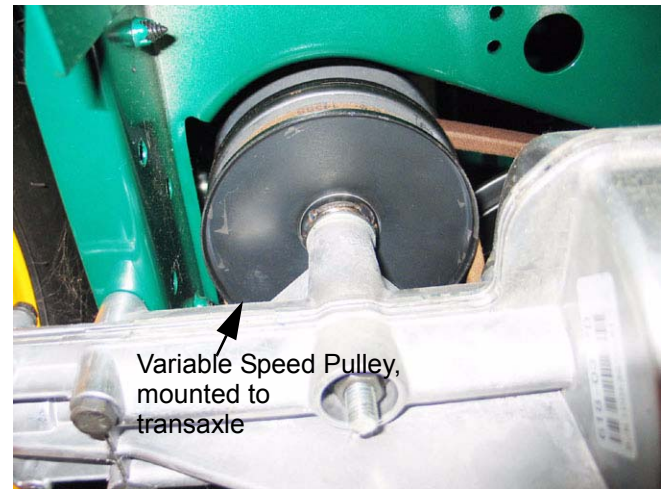

Figure 3.1
- 3.1. The variable speed pulley is mounted directly to the housing of the previous transaxle (P/N: 618-0307D). See Figure 3.1.